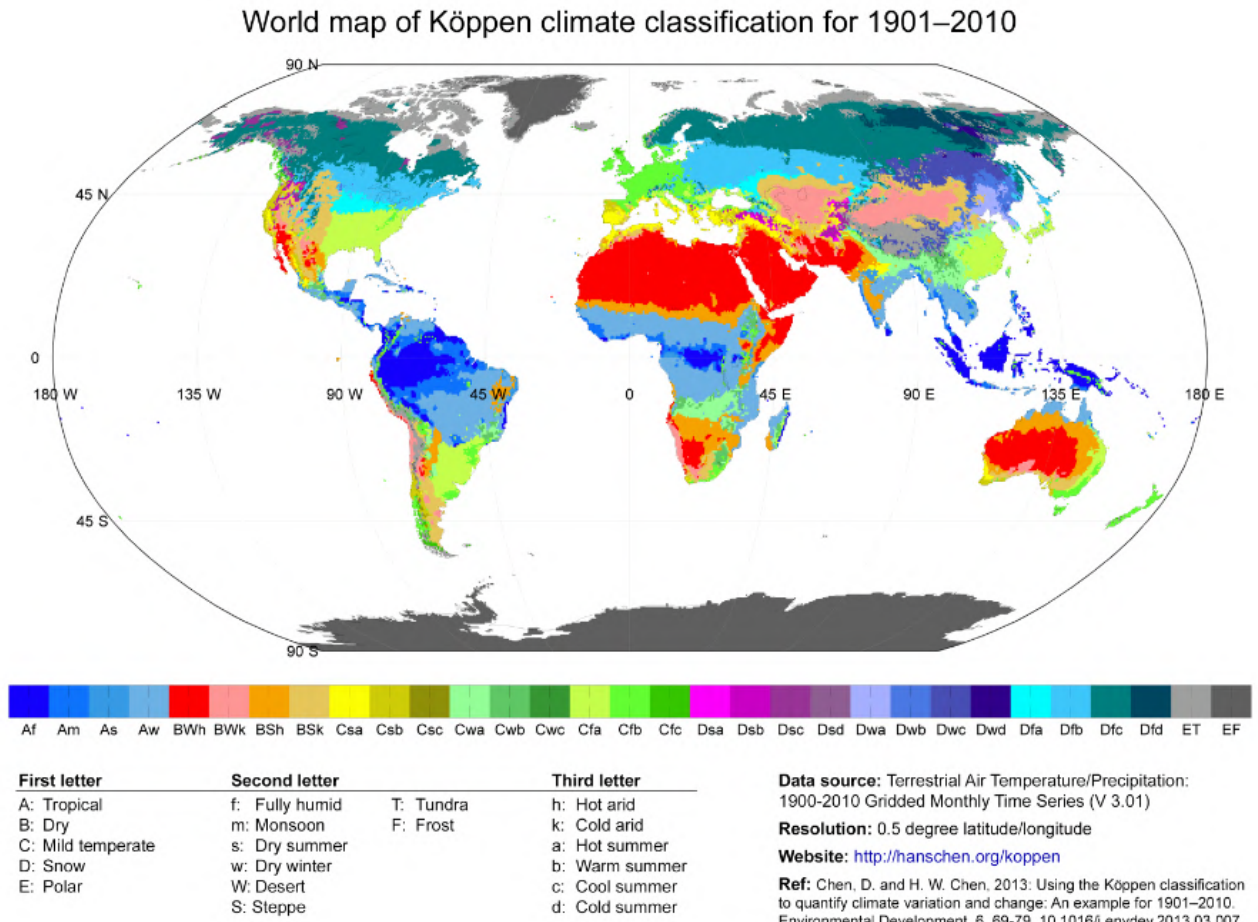

Figure A.2 Spatial distribution of the Köppen climate types for the period from 1901 to 2010
- The operational temperature is influenced by the minimum distance between the module bottom and the surface of roof or wall. The distance is related to the climate. Figure A.2 shows climate area distribution of the Köppen climate types for the period from 1901 to 2010. In any climate regions except for BWh area, the minimum distance should be 10.2 cm (4.0 in). If you want to determine a specific distance on your project located in the BWh climate area, please contact Canadian Solar's technical service team. For more information about Köppen climate types, please refer to <http://hanschen.org/koppen>.